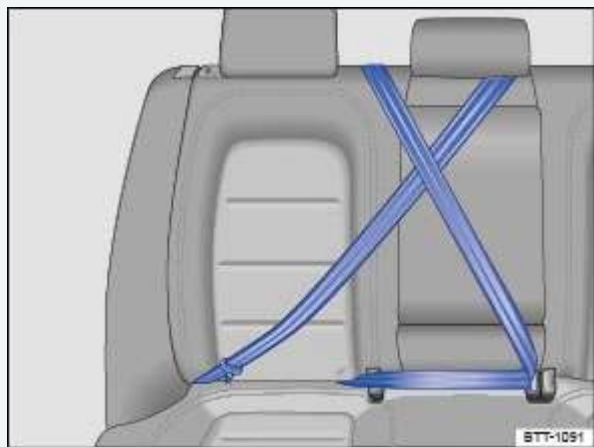

Fig. 76 Keep unused safety belts away from children in child restraints.
You must take special precautions when installing a LATCH/UCRA child restraint behind the front passenger or driver seats. Always route the center safety belt and the unused safety belt for the seating position where the child restraint is being installed securely out of the child's reach. Securing the safety belts will help prevent a child from playing with an unused safety belt and becoming entangled with it ⇒ Fig. 76.
- Buckle the safety belt ⇒ *Fig. 76*.
LATCH/UCRA lower universal anchorages behind the front passenger seat or behind the driver seat. Always route the center safety belt and the unused safety belt for the seating position where the child restraint is being installed securely out of the child's reach. Securing the safety belts will help prevent a child from playing with an unused safety belt and becoming entangled with it ⇒ Using a child restraint on the rear seat, ⇒ Fig. 76.
You must take special precautions when installing a child restraint with the vehicle safety belt or with LATCH/UCRA lower universal anchorages behind the front passenger seat or behind the driver seat. Always route the center safety belt and the unused safety belt for the seating position where the child restraint is being installed securely out of the child's reach. Securing the safety belts will help prevent a child from playing with an unused safety belt and becoming entangled with it ⇒ *Using a child restraint on the rear seat*, ⇒ *Fig. 76*.